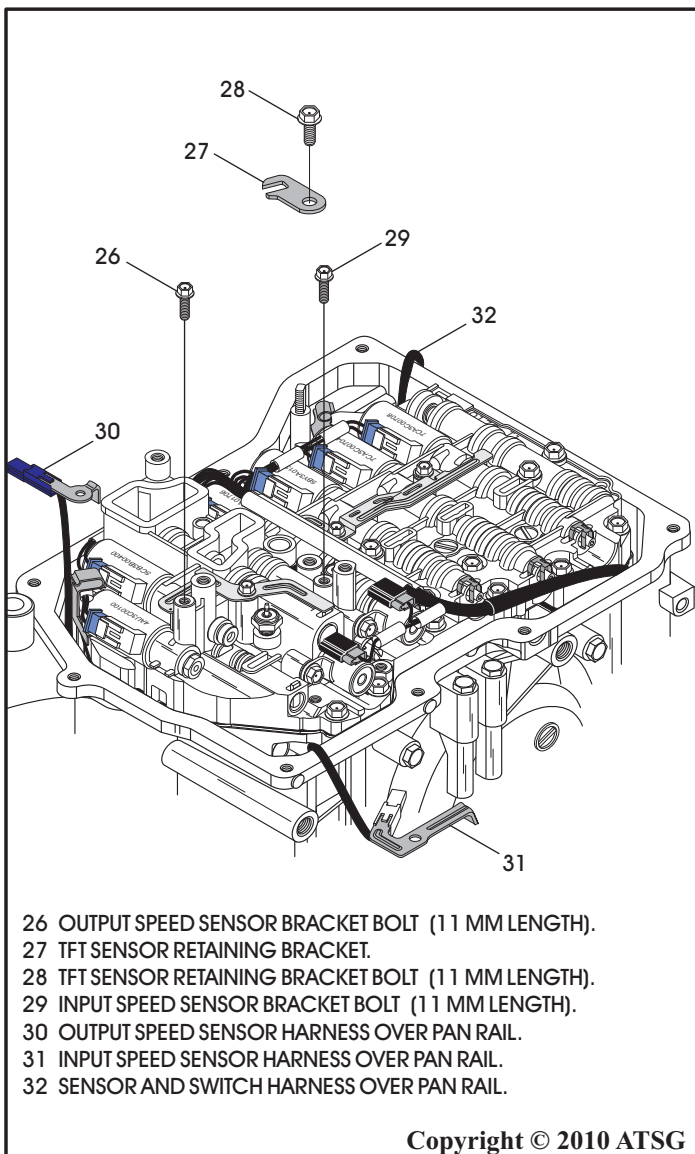

Figure 201
7. Install the output speed sensor "blue" connector to valve body, as shown in Figure 201, torque the retaining bolt to 7 N·m (62 in.lb.).
78. Install the input speed sensor "white" connector to valve body, as shown in Figure 201, torque the retaining bolt to 7 N·m (62 in.lb.).